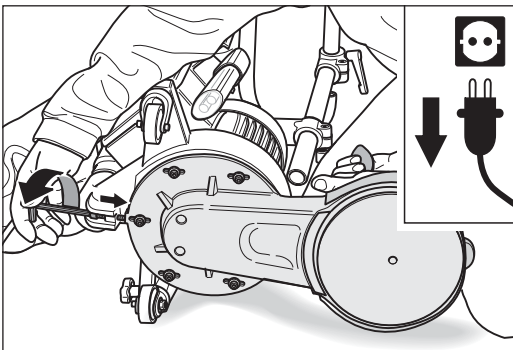

Fig. 61 Screw the belt-tensioning screw all the way in until it rests against the attachment.
- 7 Set the attachment down again use the proper Allen key to screw the belt-tensioning screw all the way forward until it rests against the attachment (fig. 61).